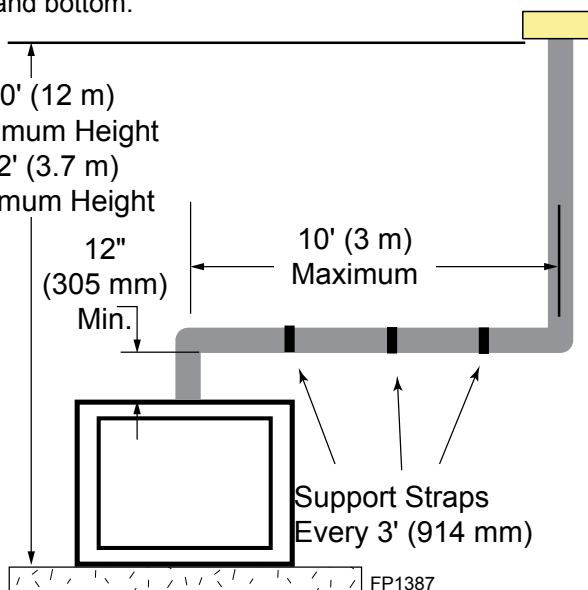

Figure 20 - Support Straps for Horizontal Runs
- Vertical installations up to 40' (12 m) in height. Up to a 10' (3 m) horizontal vent run can be installed within the vent system using a maximum of two 90° elbows. *Figure 20*
NOTE: If an offset is needed to avoid obstructions, you must support the vent pipe every three (3) feet. Use wall straps for this purpose. Refer to Figure 20, page 17. Whenever possible, use 45° elbows instead of 90° elbows. The 45° elbow offers less restriction to the flow of the flue gases and intake air.